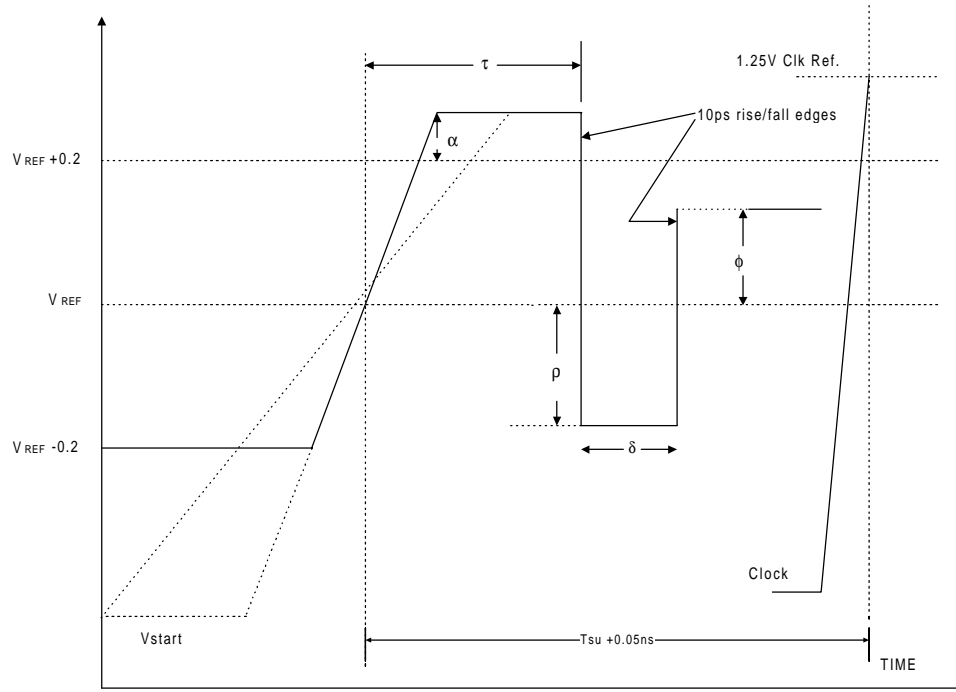

Figure 12-12: Standard Input Lo-to-Hi Waveform for Characterizing Receiver Ringback Tolerance
1. Specified for an edge rate of 0.8-1.3 V/ns. See the *Pentium® Pro Family Developer's Manual* for the definition of these terms. See Figure 12-12 and Figure 12-13 for the generic waveforms. All values are determined by design/characterization.